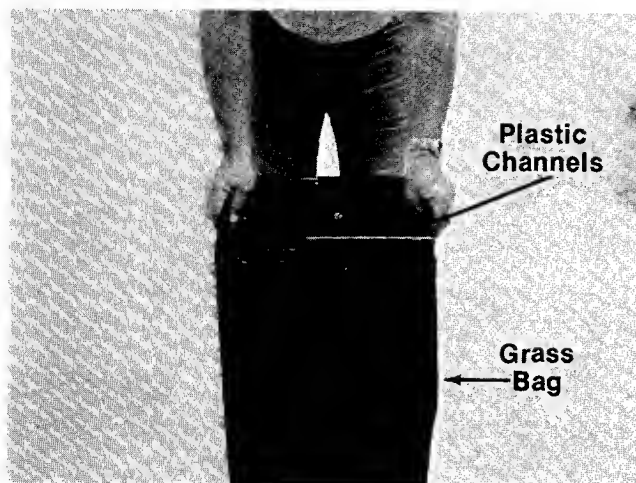

FIGURE 10.
3. Secure bag to frame by slipping plastic channels on bag over frame. See figure 10.